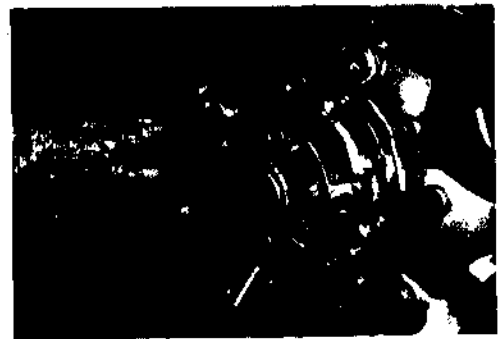

FIGURE 1
3. Jack-screw holes are provided in the bearing head flange for bearing removal. Insert two bearing head cap screws in these holes and tighten to force the bearing head away from the housing (Figure 1).